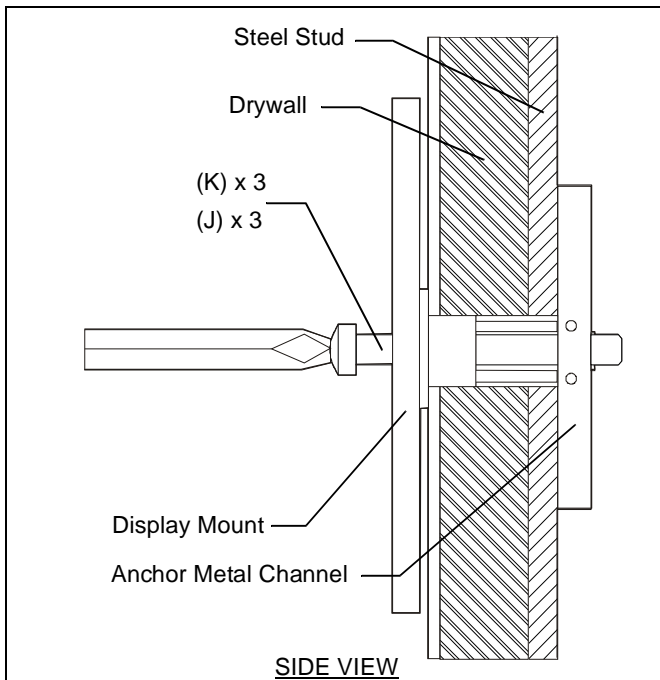

Figure 6
11. Place mount over anchors and align mounting holes in display mount with holes in anchors. (See Figure 6)
12. Place flat washer (J) onto button head capscrew (K).
13. Insert button head capscrews (K) with flat washer (J) through mounting hole in display mount and into anchor (L) and tighten until flush against mount. DO NOT overtighten!